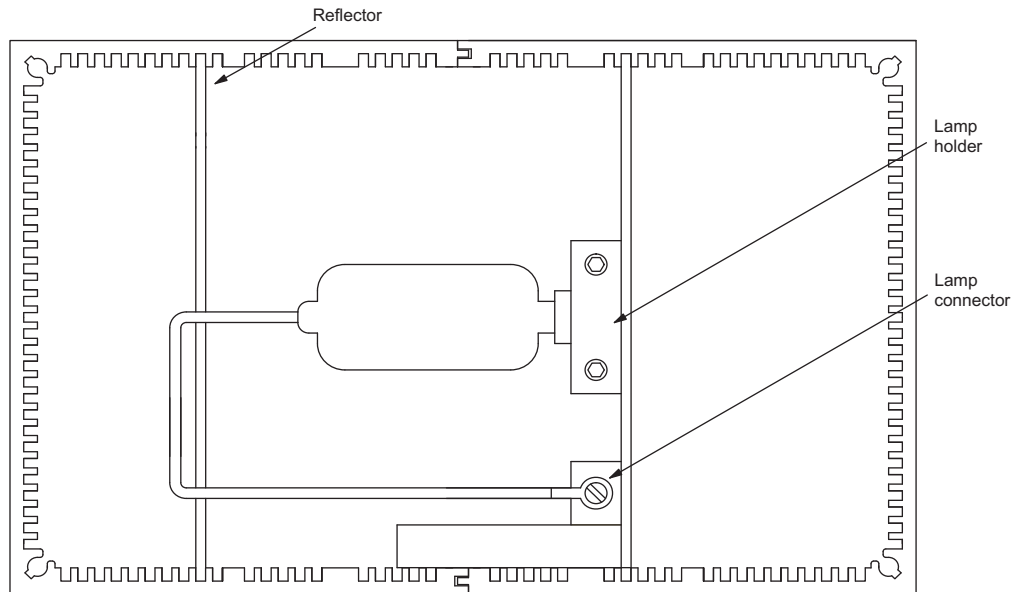

Figure 3.2: View inside the instrument with the housing cover removed
4. Unscrew the cross-headed screw from the lamp connector (refer to FIGURE 3.2). We recommend that you use a magnetic screwdriver.
5. Undo the two Allen screws on the lamp holder using an Allen key size 2.5 (refer to FIGURE 3.2).